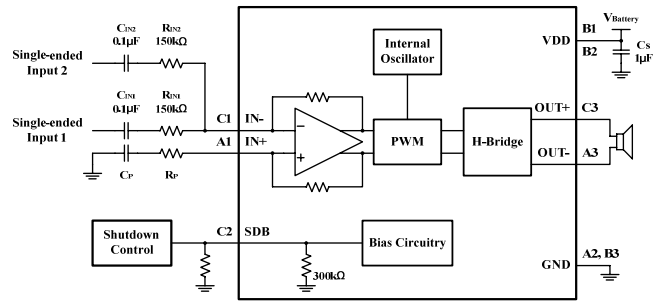

Figure 14 Summing Two Single-Ended Inputs
The gain and corner frequencies (f_{c1} and f_{c2}) for each input source can be set independently (see Equations (11) through (14) and Figure 14). Resistor, R_P , and capacitor, C_P , are needed on the IN^- terminal to match the impedance on the IN^+ terminal. The single-ended inputs must be driven by low impedance sources even if one of the inputs is not outputting an ac signal.